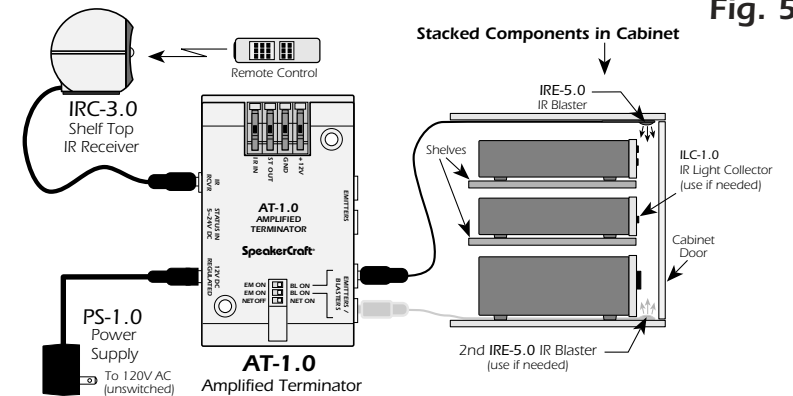

Fig. 5
Fig. 5 shows a typical basic system using the SpeakerCraft IRE-5.0 Blaster to control a stack of components. For further details, refer to the IRE-5.0 Instructions.
1. Plug the IRE-5.0 Blaster(s) into the EMITTERS/BLASTERS port(s) on the SpeakerCraft AT-1.0 Amplified Terminator (see Fig. 5).